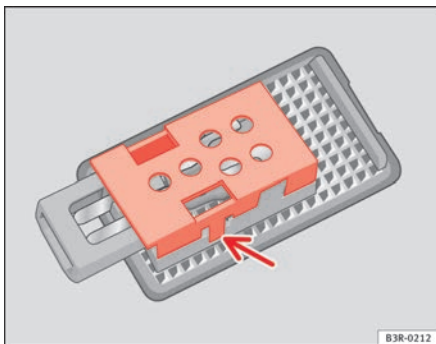

Fig. 220 Luggage compartment light
- Remove the protective cover and remove the bulb from the housing ⇒ fig. 220. ■